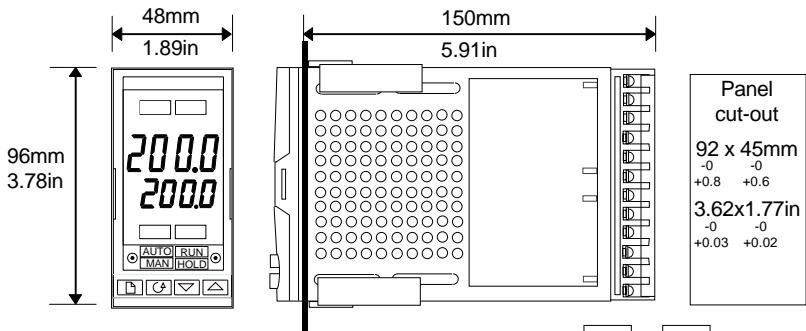

Figure 1-3
The electronic assembly of the controller plugs into a rigid plastic sleeve, which in turn fits into the standard DIN size panel cut-out shown in Figures 1-3 and 1-4.
1. Prepare the control panel cut-out to the size shown in Figure 1-3, or 1-4.